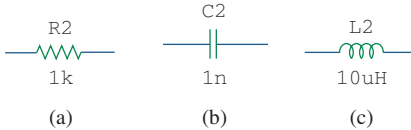

Figure 3
- Use scroll bar to select the part (or type the part name, e.g., R for resistor, in the *PartName* box). Figures 3 to 5 show some part names and symbols for circuit elements and independent voltage and current sources.
As shown in Figs. 3 to 5, each component has an attribute in addition to its symbol. Attributes are the labels for parts. Each attribute consists of a *name* and its designated *value*. For example, R and VSRC are the names of resistor and voltage source (dc, ac, or transient source), while 2k and DC = +10V are the designated values of the resistor and voltage source, respectively.